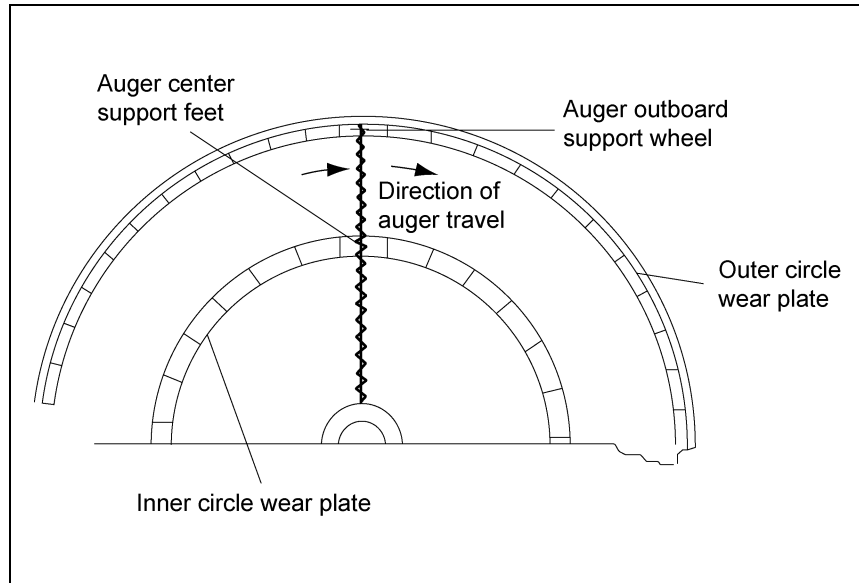
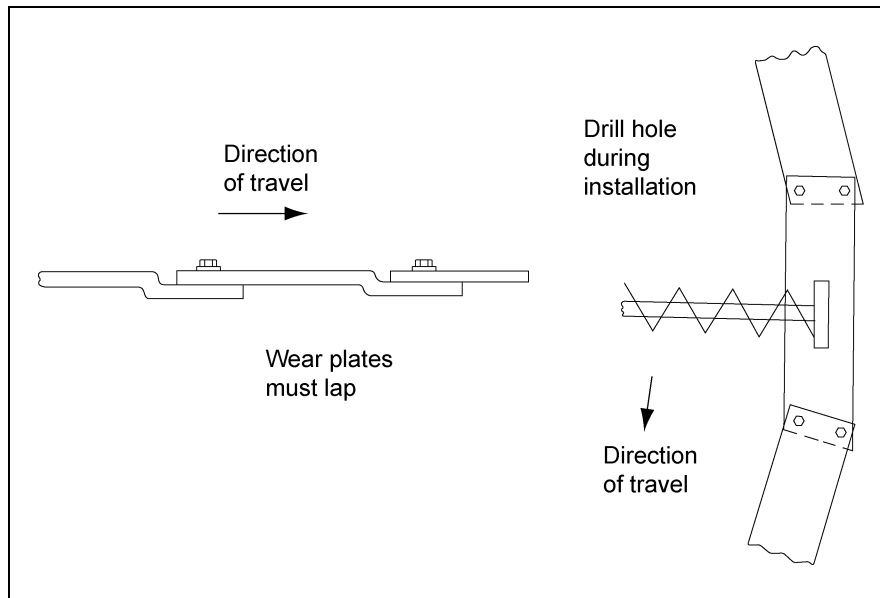

Figure 5X
Figure 5Y
For intermediate sump, place the sump on the discharge tube so the slide gate is pushed toward the center of the bin to open it. Install the sump with 52" between the bin wall and the intermediate sump. For 18' to 24' diameter bins, the intermediate sump will have to be installed closer to the bin wall so it will not interfere with the auger wear plates. Use the floor augers as guides to determine the position of the wear plates. (See Figure 5X on Page 27.)
21. Use the floor auger to position the wear plates locating them so the drive wheel and center support feet will not hit the anchoring screws or rivets. Bin sizes 36' 1" and larger will use two (2) sets of inner wear plates. The wear plates are to be overlapped so the drive wheels can move over them without tearing them loose from the floor. Secure the plates to the floor with either 3/16" aluminum rivets. (See Figure 5X and Figure 5Y.)